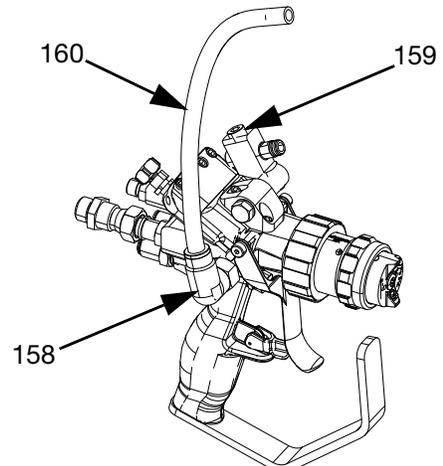

FIG. 3
3. Refer to FIG. 3. Use a 3/16 in. hex wrench to install the plug (159) included with the cutter assembly where Fitting B was removed.